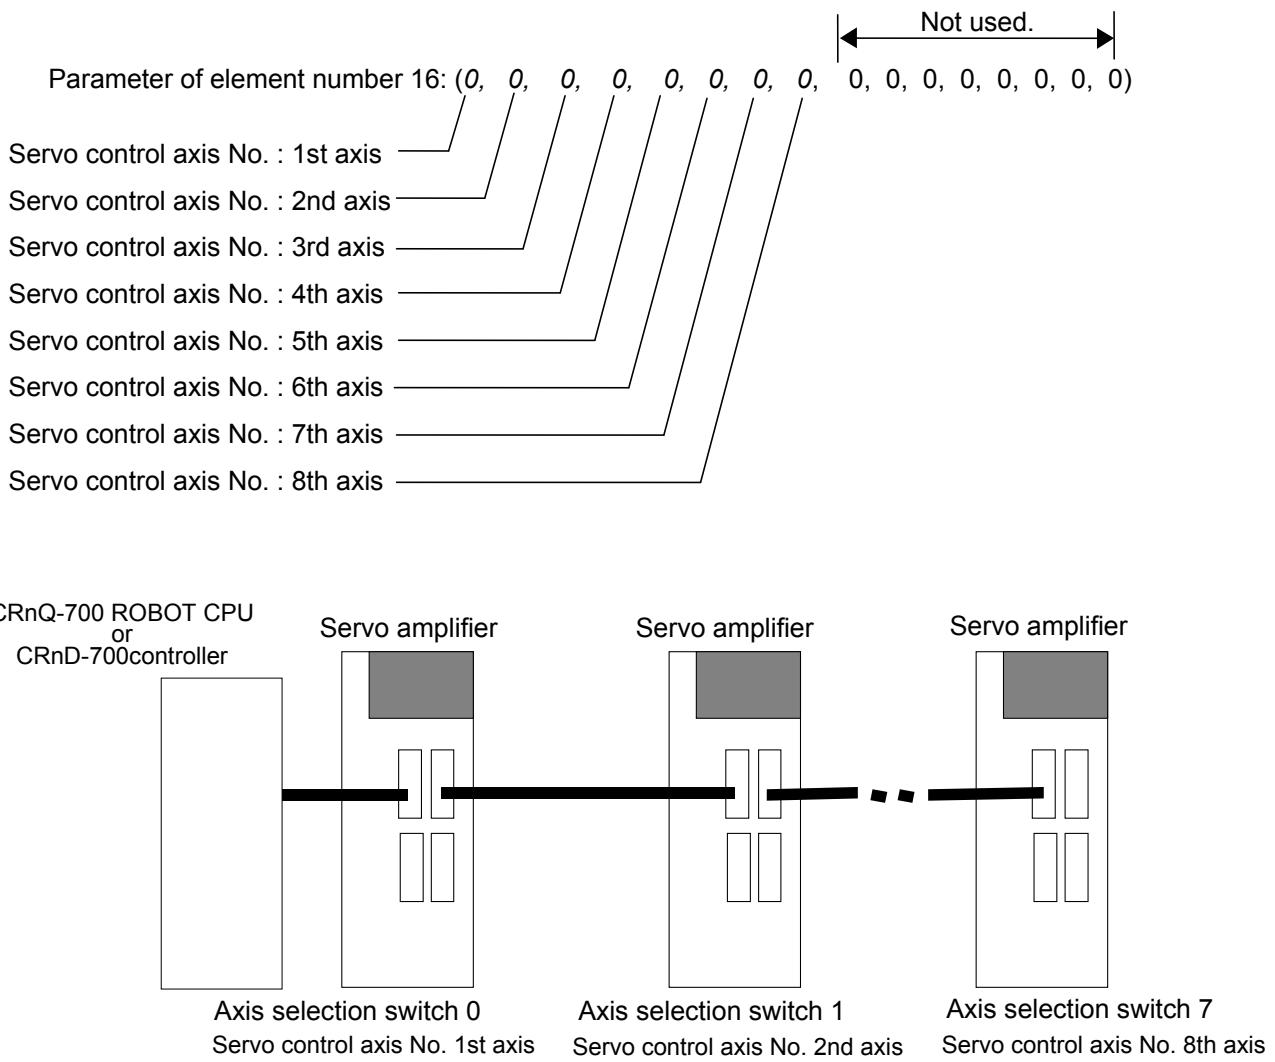

Fig. 7.1.1 Control No. and parameter element of servo
- (2) AXMENO (mechanism No. designation)
- (3) AXJNO (Setting axis No.)
- (4) AXUNT (unit system)
- (5) AXSPOL (motor rotation direction)
- (6) AXACC (acceleration time) · AXDEC (deceleration time)
- (7) AXGRTN (total speed ratio numerator) · AXGRTD (total speed ratio denominator)
- (8) AXMREV (rated rotation speed) · AXJMX (maximum rotation speed) · AXENCR (encoder resolution)
- (9) AXJOGTS (JOG smoothening time constant)
- (10) MEJAR (joint operating range)
- (11) USERORG (user designated origin)
Moreover, the parameter elements of (2) to (9) correspond to the control axis Nos. of the servo as shown in "Fig. 7.1.1 Control axis No. and parameter element of servo". If any personal computer support software (which enables the program editing, parameter setting, various monitors, etc., of the robot) is used, (10) and (11) are the mechanical parameters and the others are arranged in the common parameters.